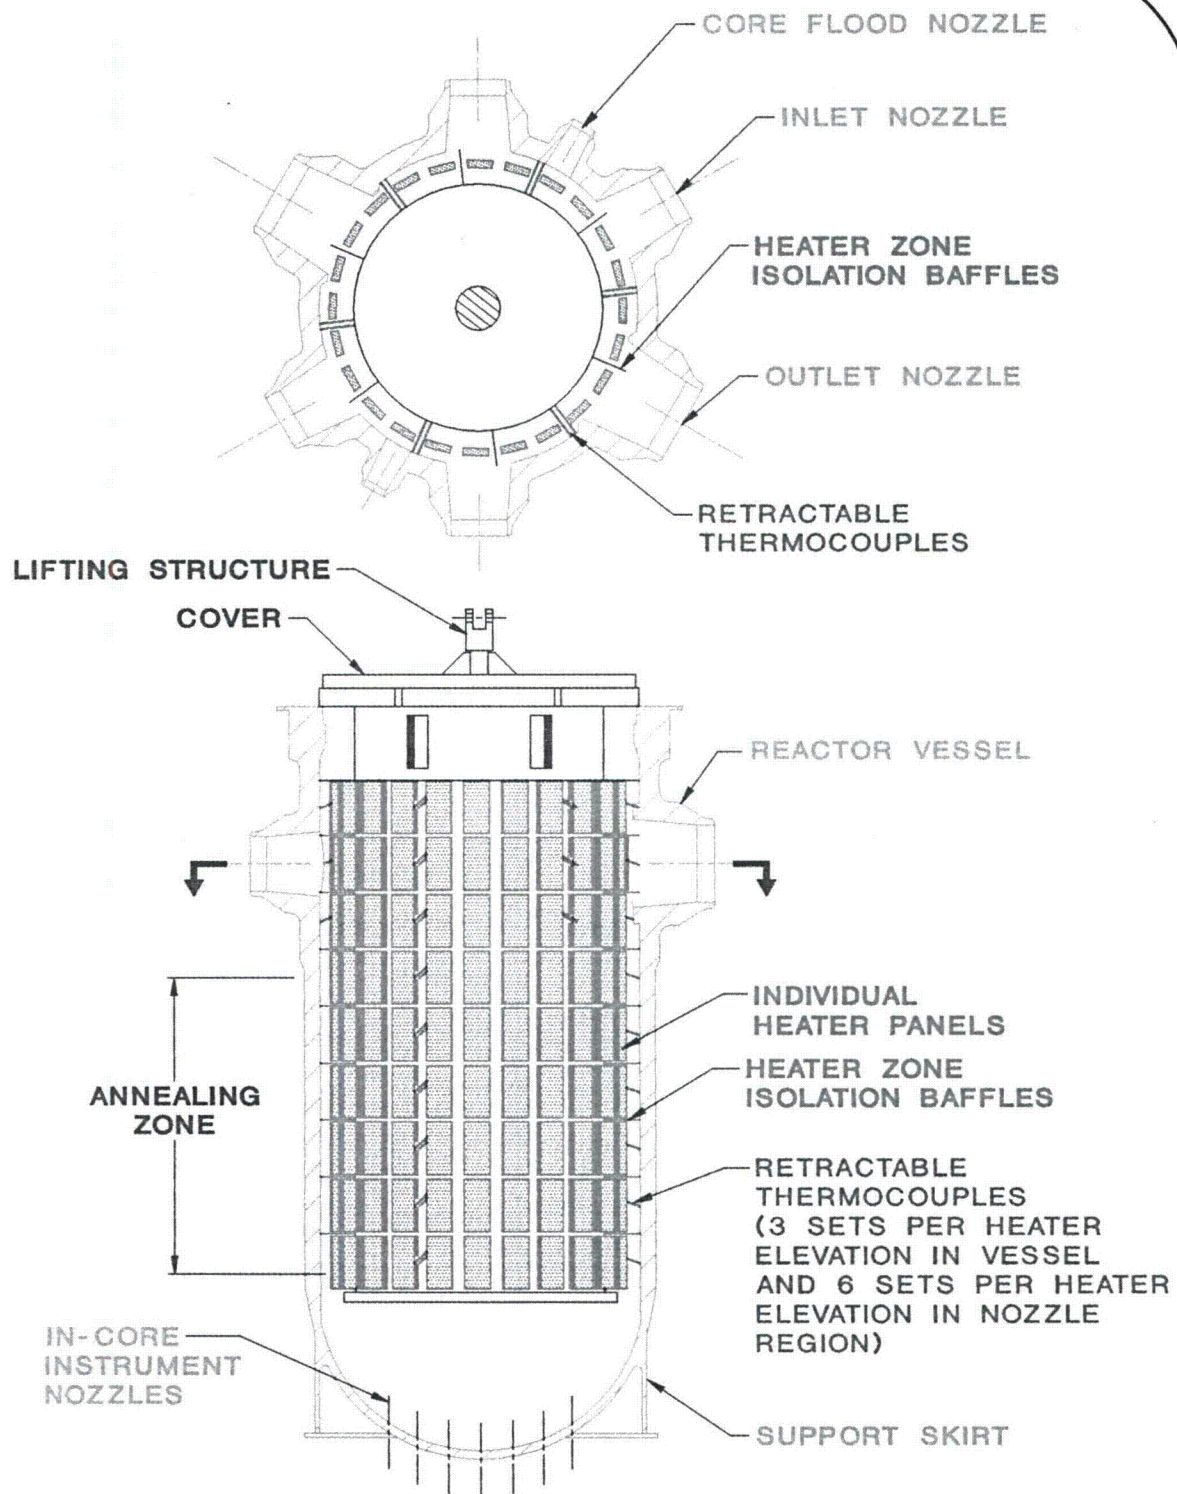

Figure 3. MPR Team Electric Annealing Furnace for Midland Reactor Vessel Demonstration
- Reactor pressure vessel (RPV) will be radiatively heated via electric resistance heaters (Figure 3).
- The RPV, reactor system coolant piping, and bioshield will be instrumented with thermocouples (120), strain gages (14), and displacement gages (12).